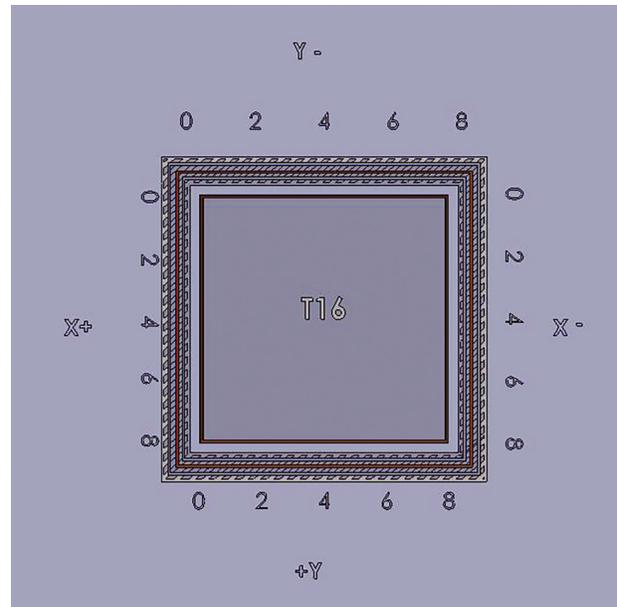

Figure 1: Measure at the center of each leg. (Step 2.A)
- A. Measure at the center of all 4 sides of the support layer box (figure 1).